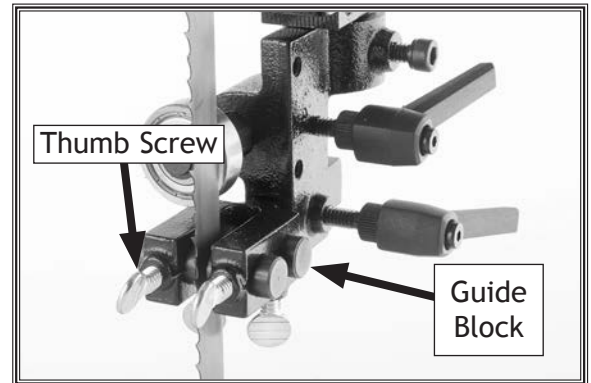

**Figure 16.** Installing fence onto rails.
12. Pull the fence handle up and place the fence on the front fence rail, as shown in **Figure 16**.